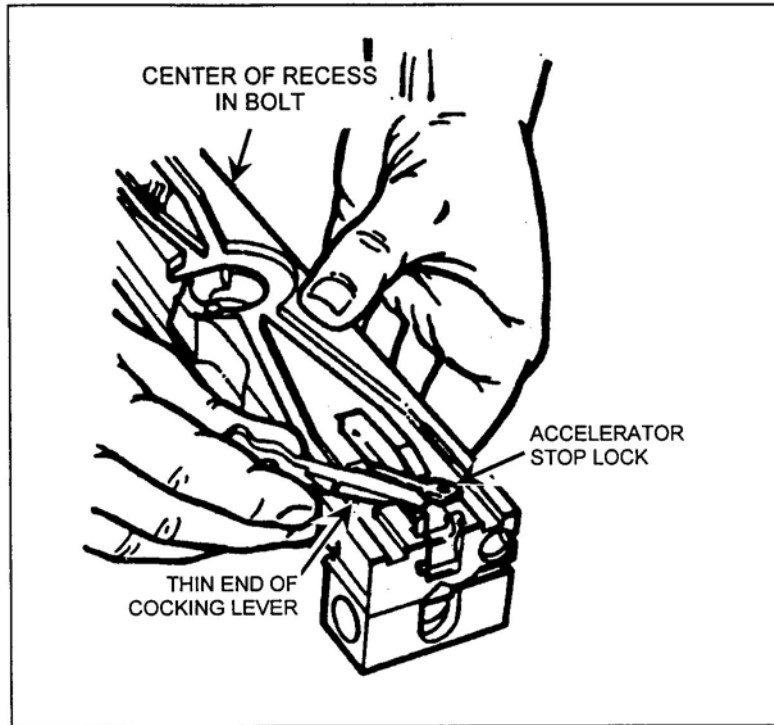

Figure 12. Removal of the accelerator stop lock.
- (e) Use the thin end of the cocking lever to rotate the accelerator stop lock to the center of the bolt, then pry up the accelerator stop lock and remove it (Figure 12).